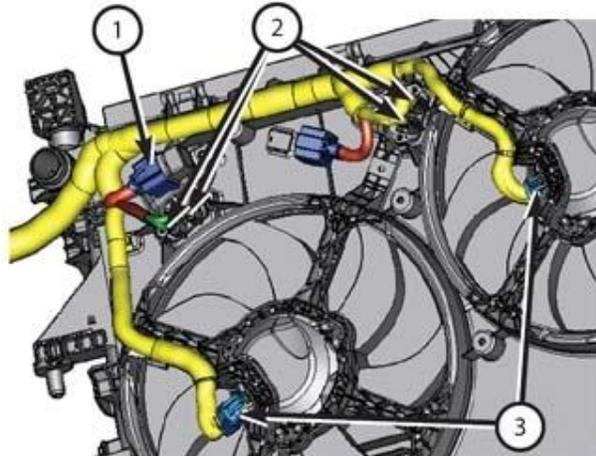

Figure 17 – Coolant Recovery Hose
11. The following cooling fan module steps may be performed together; some connectors or retainers may be more easily accessible from above or below. Disconnect any that are accessible from above first then raise and support the vehicle to access those accessible from below (Figures 17 and 18).
- From above or below as necessary, disconnect the wire harness connectors from the cooling fan relays (1), the resistors (2) and the cooling fan motors (3) (Figure 17).
- From below or above as necessary, connect the wire harness connectors to the cooling fan relays (1), the resistors (2) and the cooling fan motors (3) (Figure 17). **NOTE: Ensure the connectors are fully connected.**